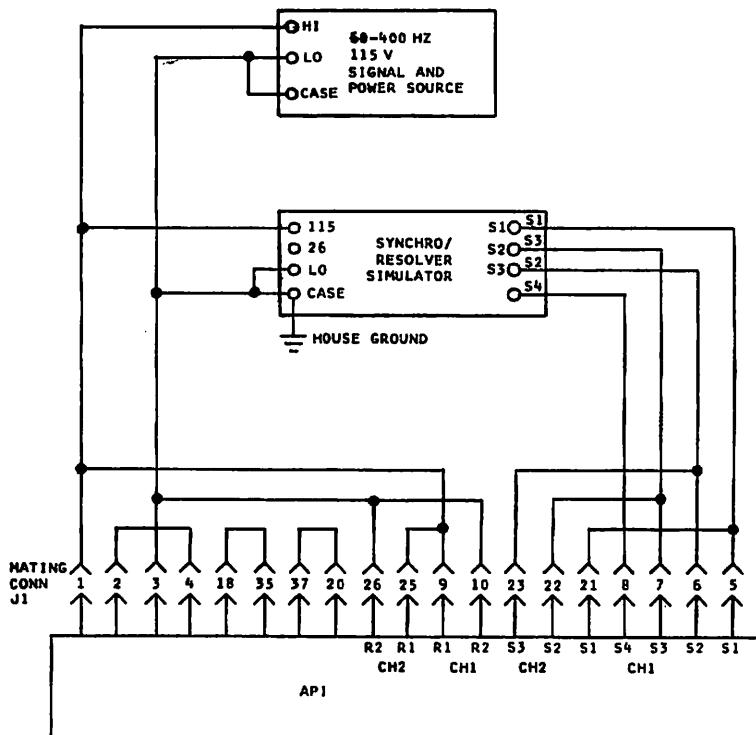

Figure 5-1. Performance Test Set-Up
| Mating connector | Connector wired for the functions to be tested (fig. 5-1) | North Atlantic Industries mating connector kit P/N 783718) <table> <thead> <tr> <th>Oty</th> <th>AMP P/N</th> </tr> </thead> <tbody> <tr> <td>1 shell</td> <td>205211-1</td> </tr> <tr> <td>1 clamp</td> <td>205732-1</td> </tr> <tr> <td>2 retainers</td> <td>205980-1</td> </tr> <tr> <td>50 pins</td> <td>66569-3</td> </tr> </tbody> </table> | Oty | AMP P/N | 1 shell | 205211-1 | 1 clamp | 205732-1 | 2 retainers | 205980-1 | 50 pins | 66569-3 |
- Verify that the mating connector has been wired for proper line-to-line and function to be tested. Refer to figure 5-1.
Set-up equipment as shown in figure 5-1 and perform the following.
- b. Set-up equipment as shown in figure 5-1. Tie the auxiliary equipment to house ground at only one point to avoid ground loops.